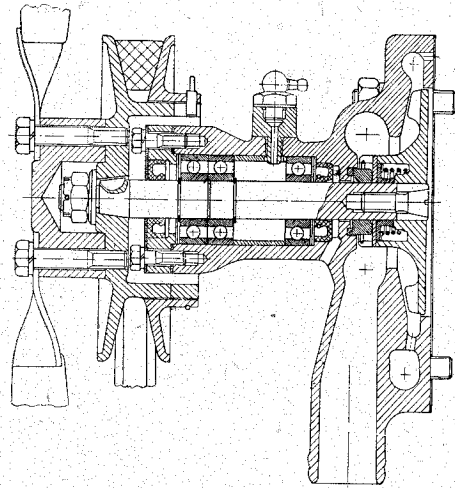

Fig. 44.
2. Slip the circlip on the fan shaft. Press-fit to it the two ball bearings and slip on the other circlip, the spacer tube (lubrication recess facing the impeller wheel) and press-fit the third ball bearing, slip on the adjusting shims and the seal ring (see Fig. 44).